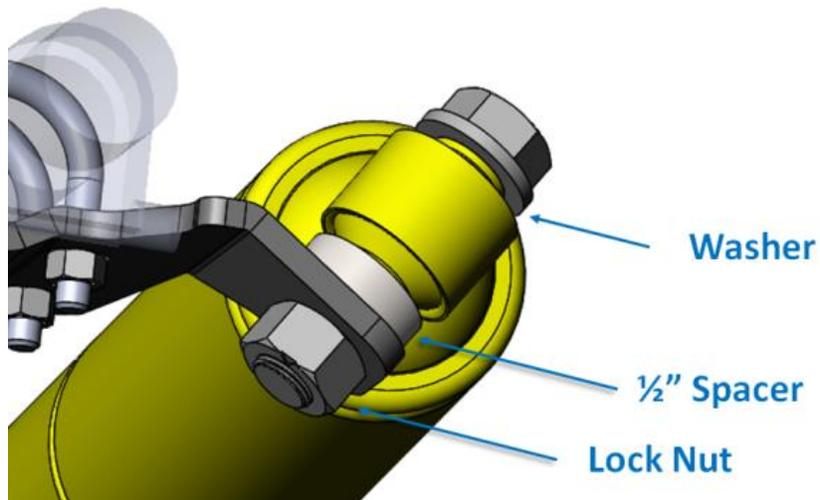

Figure 5
7. Hang the large end of the SAFE T PLUS® from USI-1014 using the 3/4" -16 x 3-1/2" bolt, 1/2" spacer, washer, and lock nut (Figure 5)